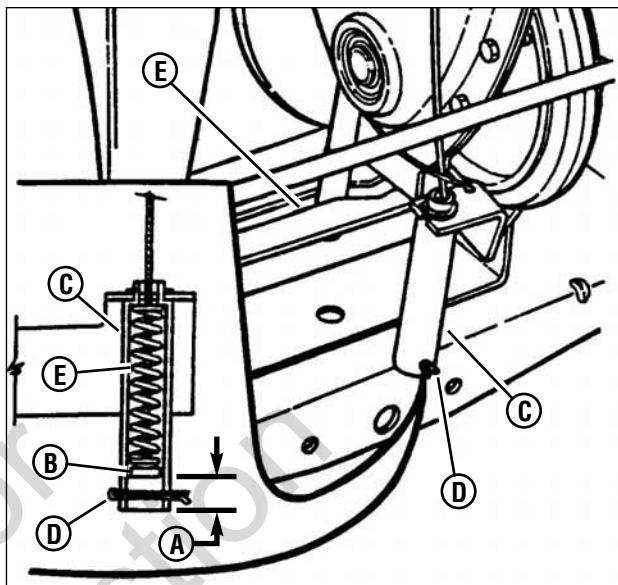

Figure 39: Adjusting the brake cable
4. Measure the distance (**A**, Figure 39) between the end of the clutch/brake cable (**B**) and the bottom of the housing (**C**). The measurement should be 3/4".
*NOTE: The cotter pin, brake spring, and clutch yoke (**D**, **E**, and **F**, Figure 39) are noted for reference purposes only.*
4. Move the transmission shift lever to the neutral (N) position.
5. Rotate the clutch yoke (F, **Figure 39**) out with your hand and work the belt between the drive disc and the rubber driven disc.